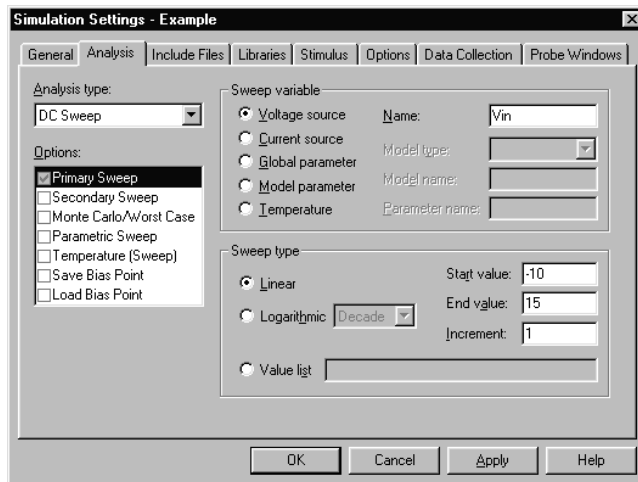

Figure 6 *DC sweep analysis settings.*
- 5 From the Analysis type list, select DC Sweep and enter the values shown in Figure 6.